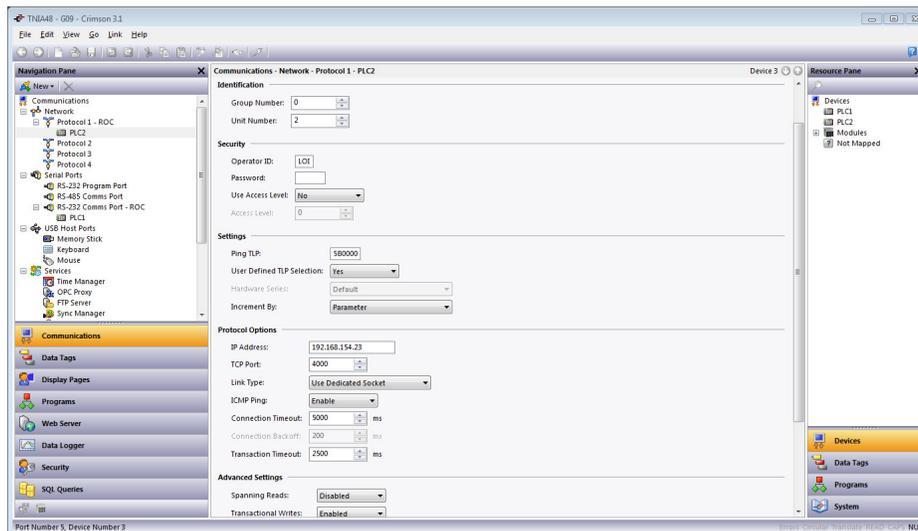

Figure 12.
11. Referring to Figure 12, go to the Navigation Pane and click on the device below the Protocol1 - ROC heading; *PLC2* in this example. The Communications - Network - Protocol 1 - PLC2 popup appears.